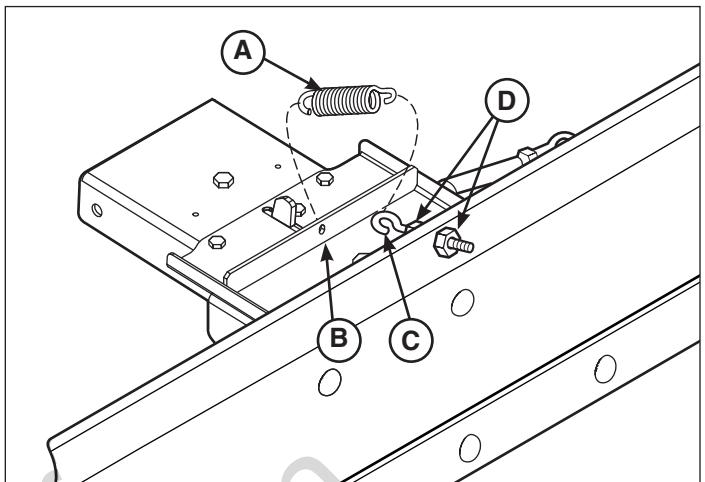

Figure 9
4. Insert the large loop of spring (**A**, Figure 9) through the hole (**B**) in hitch lift assembly and then the small loop through eyebolt (**C**).